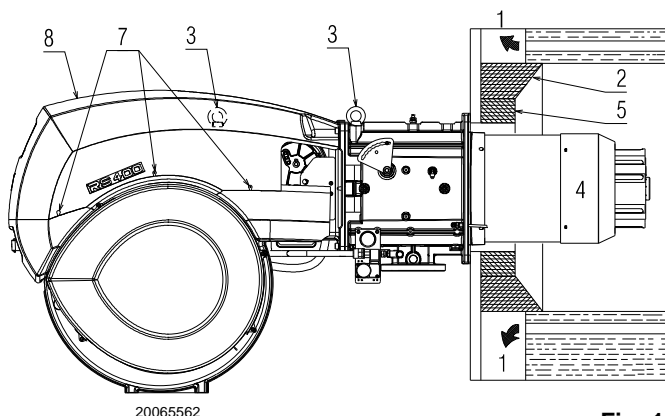

Fig. 12
For boilers with front flue passes 1) (Fig. 12) or flame inversion chamber, a protection in refractory material 5) must be inserted between the boiler fettling 2) and the blast tube 4).
For boilers with a water-cooled frontpiece, a refractory lining 2)-5) (Fig. 12) is not necessary, unless expressly requested by the boiler manufacturer.
Prepare a suitable lifting system using the rings 3)(Fig. 12), after removing the fixing screws 7) of the casing 8).
- Fit the heat insulation supplied onto the blast tube (4) (Fig. 12).